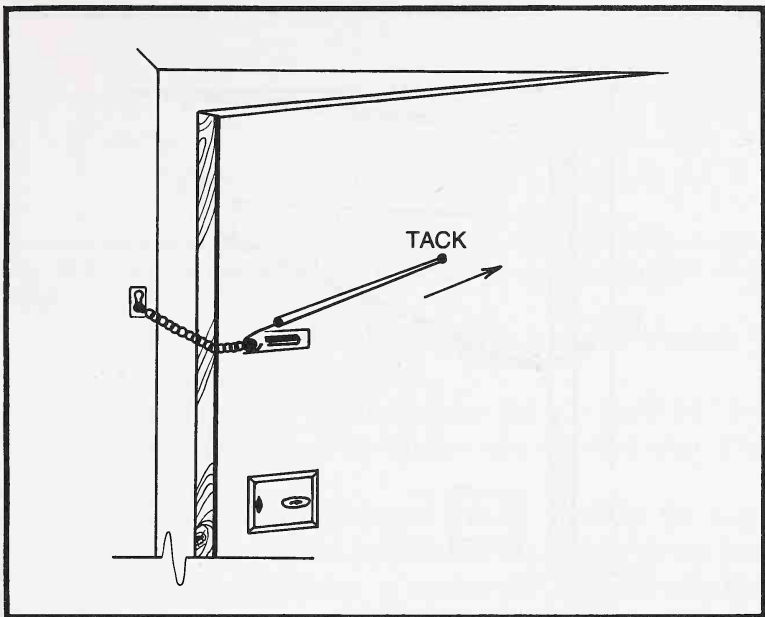

Fig. 23-7. The rubberband technique is usually the easiest way to unlock most chain locks.
1. Reach inside and stick and tack in the door behind the chain assembly (Fig. 23-7).